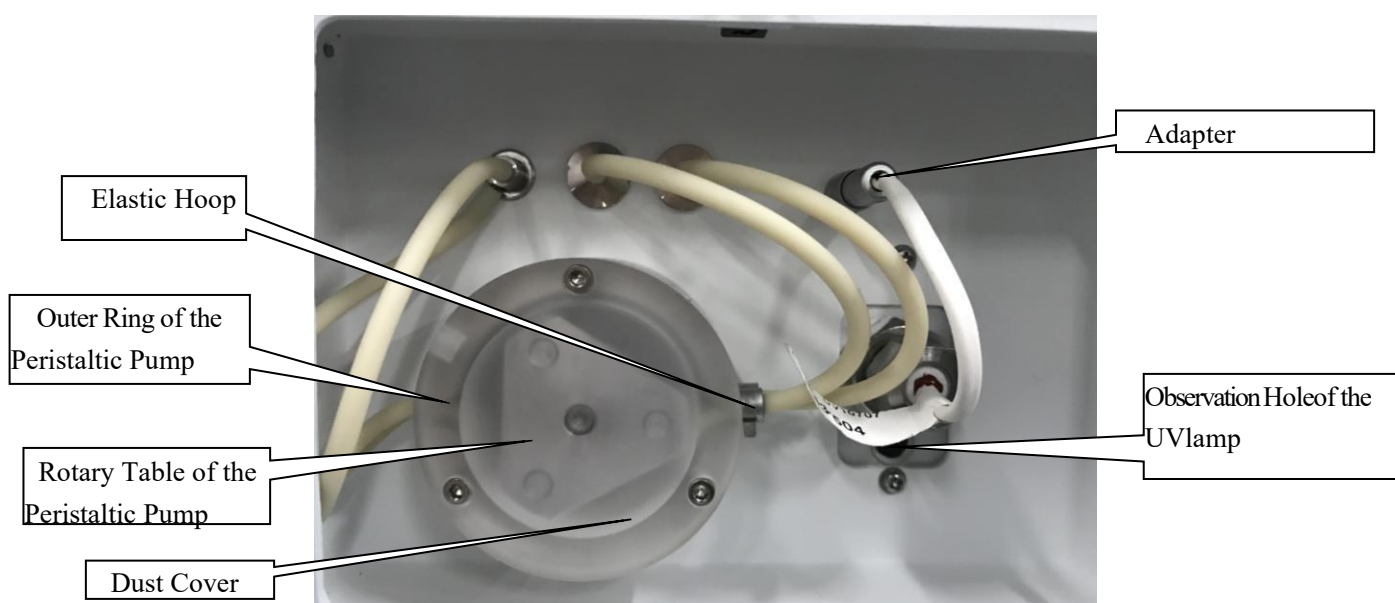

Figure 9-1
- ① Turn off the main power switch, and take out the power cord.
- ② Open the front cover plate of the device. Refer to the Figure 9-1 Replacement Diagram for Parts.
- ③ Unscrew three inner hexagon screws of the peristaltic pump dust cover, take down the dust cover, and pull out the pump pipe from the rotary table of the peristaltic pump.
- ④ The both ends of the pump pipe are pulled out from the connector. Take down the elastic hoop, so that two pump pipes may be removed as a whole.
- ⑤ Put the middle part of two new pump pipes into the rotary table of the peristaltic pump.
- ⑥ One end of the pump pipe is connected to the water outlet of the conductivity sensor, and the other end is connected to the liquid waste pipe.
- ⑦ Install the peristaltic pump dust cover and screw down the inner hexagon screws. Install a good front cover
- ⑧ Start the software, enter the station of the peristaltic pump pipe which has been replaced, and click the peristaltic pump pipe status bar by using the right mouse button, in order to reset the operation time of the peristaltic pump pipe. * **The reset needs the reset code. Please contact the manufacturer to obtain the reset code (resetting the operation time can be only carried out by the administrator).**
Check if the UV lamp connector is loose. Pull out and then insert again (refer to the Figure 9-1).